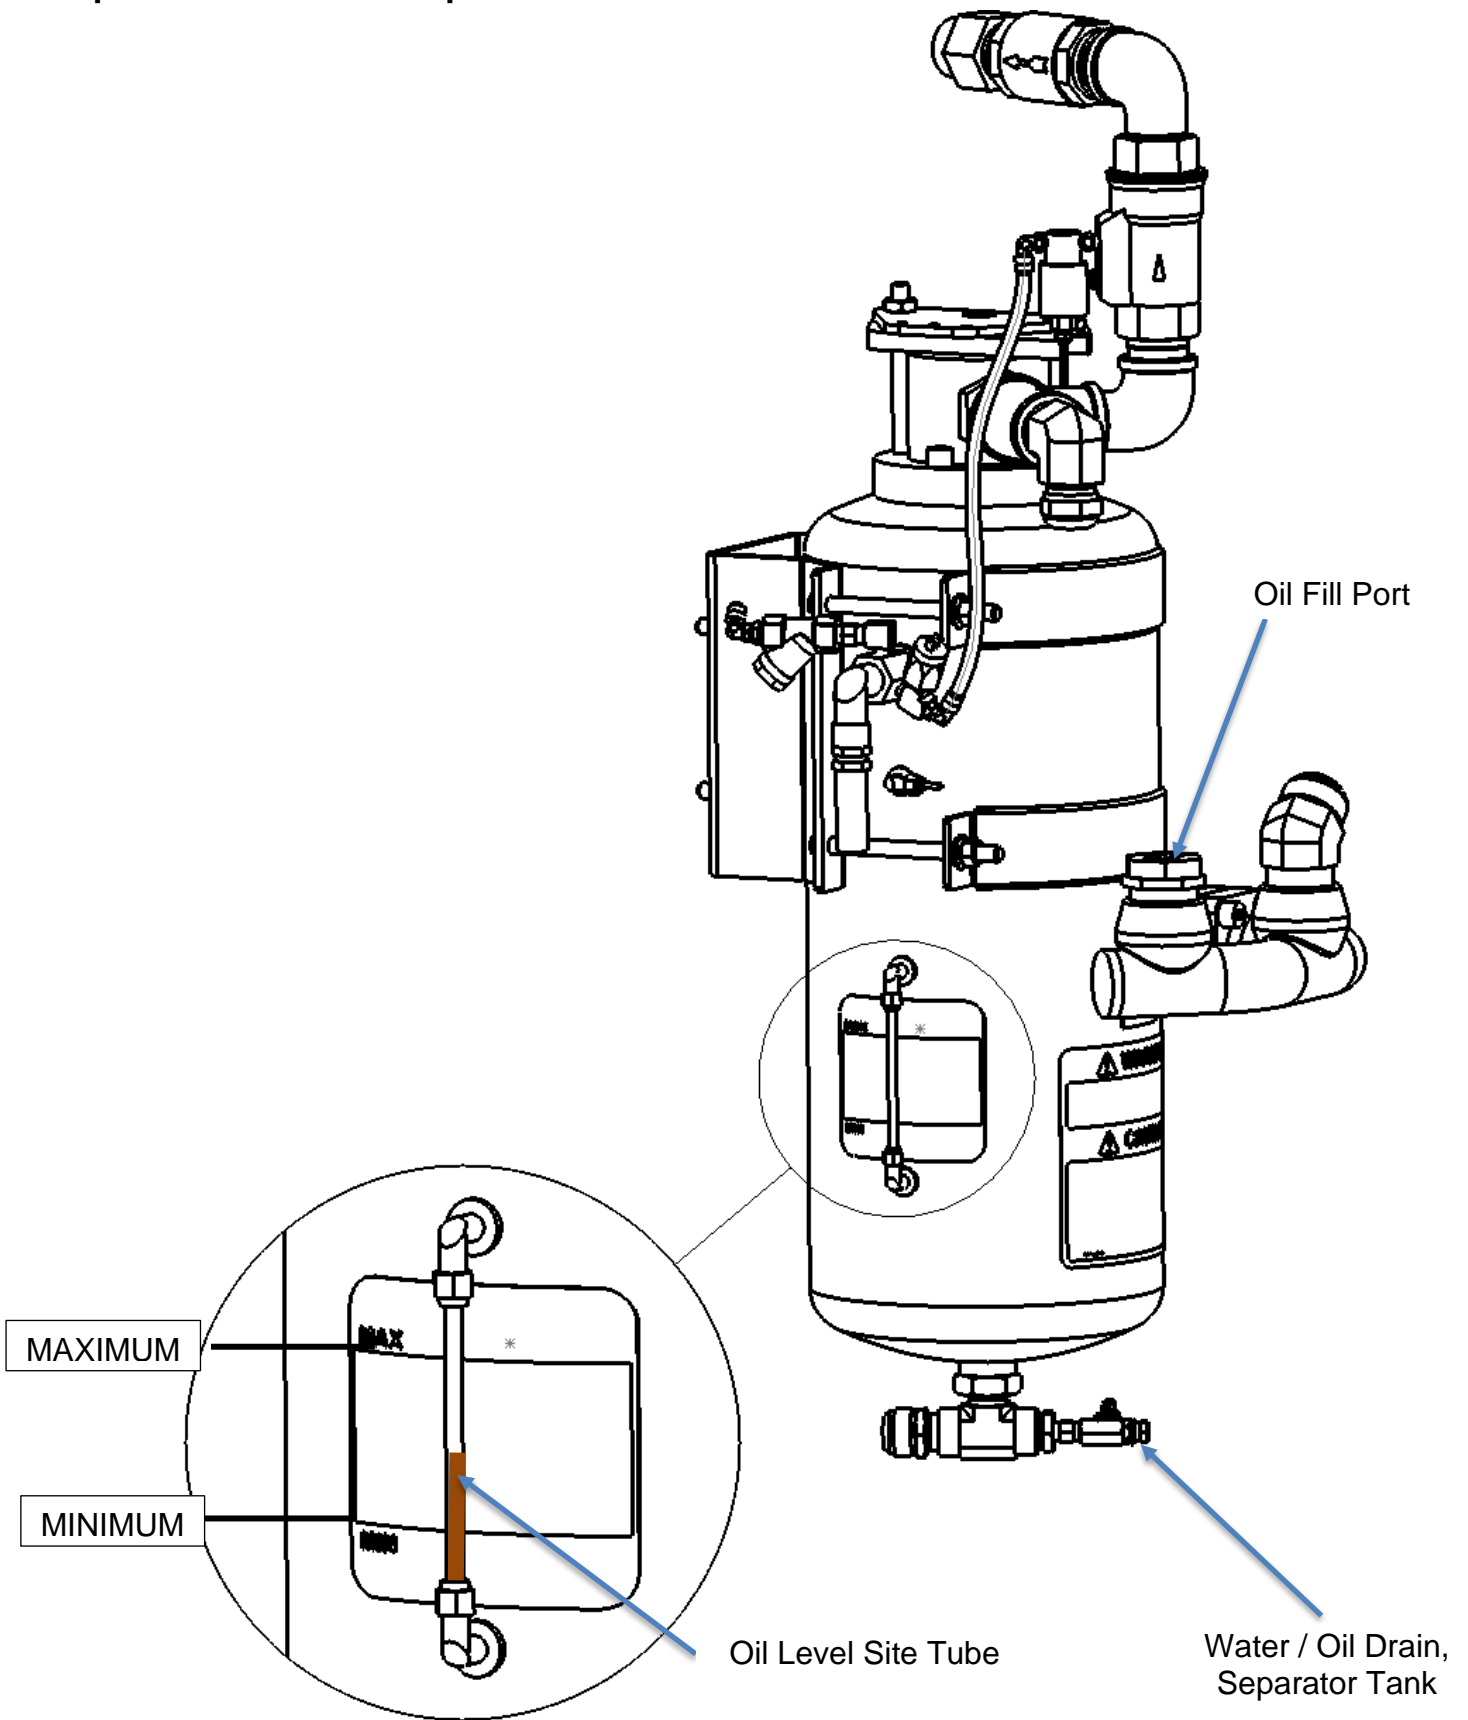

Figure 31: Separator Oil Fill and Drain Identification
- The oil level should settle within ten minutes to halfway up the sight tube, as noted on the fill decal (See Figure 31).